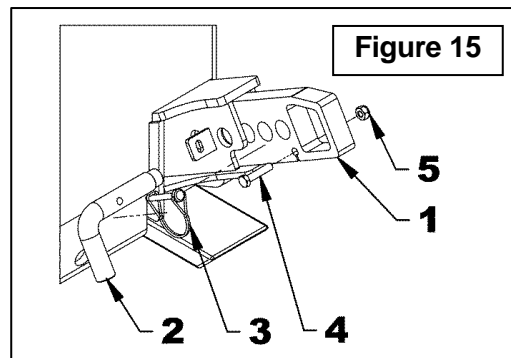

Figure 15
1. **Figure 15:** Remove the 5/16"NC x 1 1/2" bolt and 5/16"NC nylon insert locknut (items 4-5).
2. **Figure 15:** Remove the round wire lock pin and the "L" pin (items 2-3).